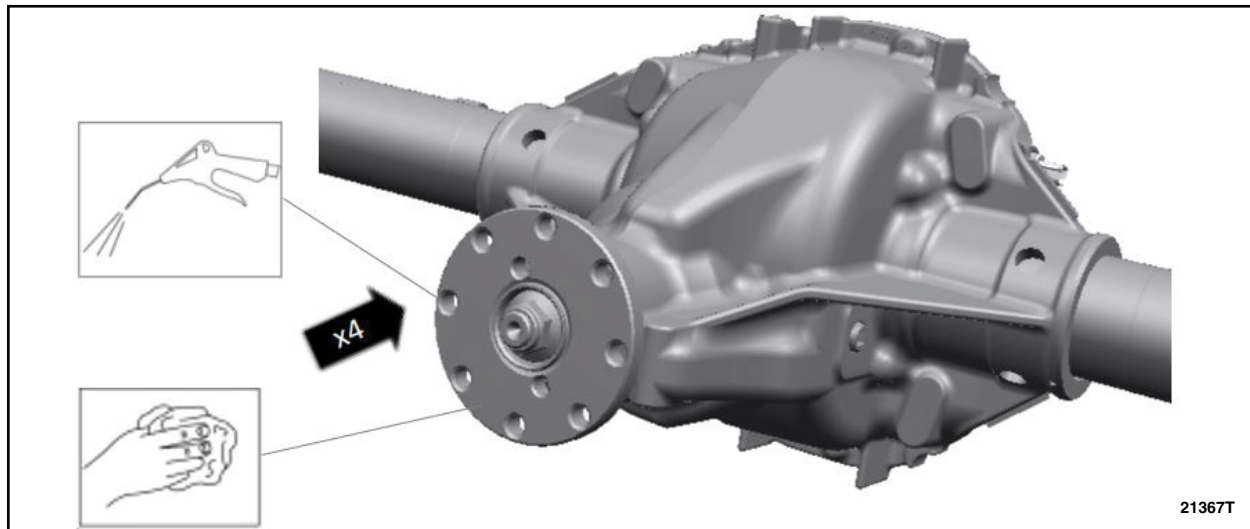

FIGURE 14
18. Using an air blow gun, remove any debris from threaded holes in axle flange. See Figure 14.